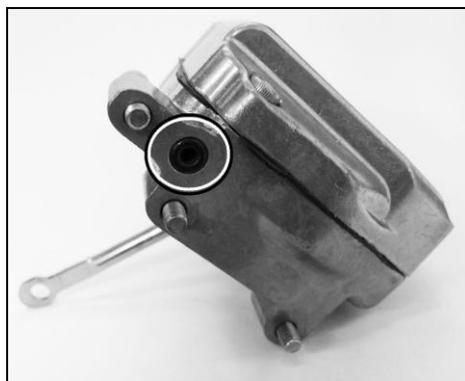

Figure 7
12. The cork gasket on the rear of the diaphragm housing is also critical to secondary operation as it seals the vacuum passage between the housing and the main body. This can be discarded at this time, as your package includes a new seal (Fig. 7).